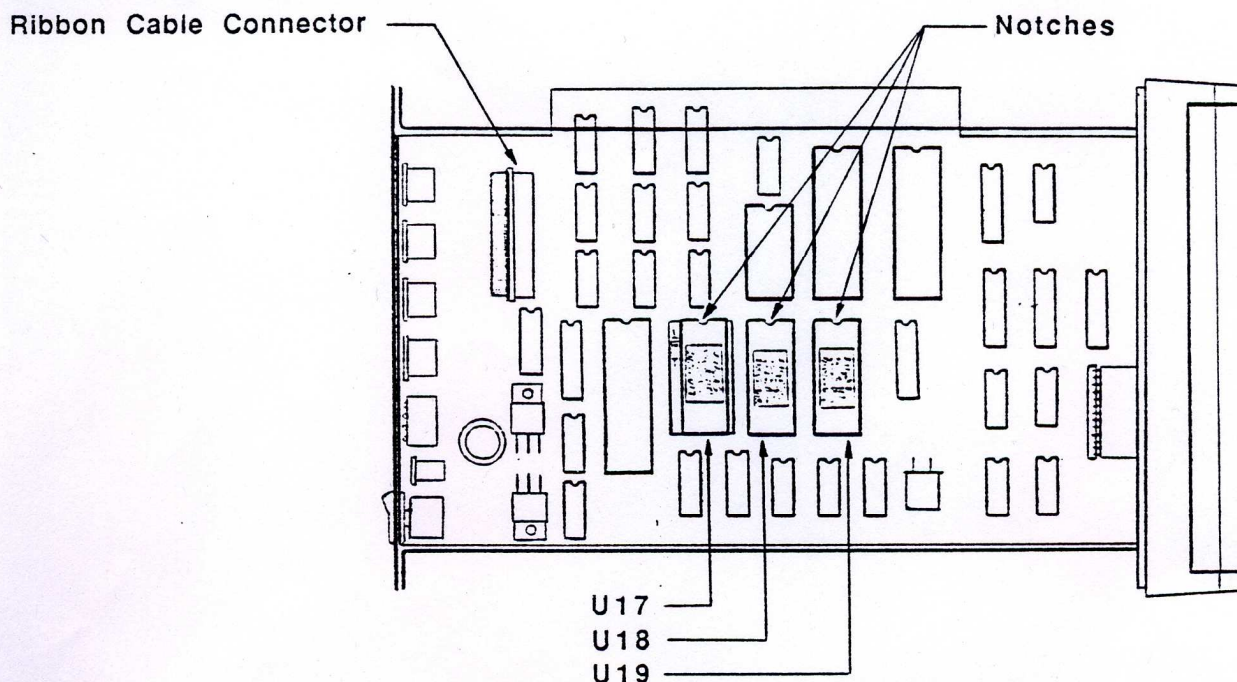

Figure 3 DOS ROM LOCATIONS
- b. Disconnect the ribbon cable connector (see Figure 3 on the next page) from the rear of the drive mechanism.
9. Locate the three DOS ROMs (U17, U18, U19) by using the diagram in Figure 3 below.
13. "Test fit" the JiffyDOS ROM on top of the proper DOS ROM socket (U19). SEE FIGURE 3 ABOVE.
MAKE SURE THAT THE NOTCH ON THE JIFFYDOS ROM IS FACING AS SHOWN IN FIGURE 3.
14. With all pins on the JiffyDOS ROM properly aligned with the socket, and with the ROM notch facing as shown in Figure 3, carefully press the ROM into the socket using finger pressure until it is fully seated.
17. "Test fit" the JiffyDOS ROM on top of the proper DOS ROM socket (U18). SEE FIGURE 3 ON THE PREVIOUS PAGE.
ROM IS FACING AS SHOWN IN FIGURE 3.**
18. With all pins on the JiffyDOS ROM properly aligned with the socket, and with the ROM notch facing as shown in Figure 3, carefully press the ROM into the socket using finger pressure until it is fully seated.
21. "Test fit" the JiffyDOS ROM on top of the proper DOS ROM socket (U17). SEE FIGURE 3 ON THE PREVIOUS PAGE.
22. With all pins on the JiffyDOS ROM properly aligned with the socket, and with the ROM notch facing as shown in Figure 3, carefully press the ROM into the socket using finger pressure until it is fully seated.